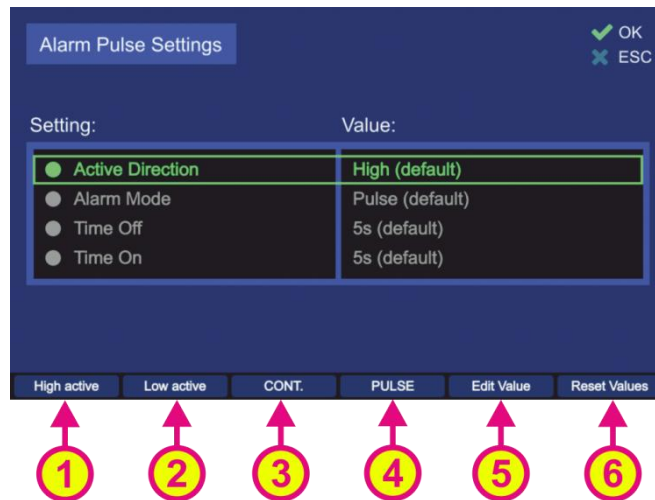

Fig. 107 Alarm pulse settings
In this dialog pressing “OK” will be interpreted as confirming of the whole set of settings that are currently displayed, which will lead to closing the dialog confirming changed values. To change the single settings only the hotkeys for modifying the related values are used (s. Fig. 107).
**Active direction** setting defines which direction (low or high) will lead to an alarm indication. This setting is changeable using the hotkeys “High active” / “Low active” or “Edit Value” (s. Fig. 107, numbers 1, 2 and 5), whereat using the first two hotkeys will change the value without opening the separate dialog.
This setting is changeable using the hotkeys "CONT." / "PULSE" or "Edit Value" (s. Fig. 107, numbers 3, 4 and 5), whereat using the first two hotkeys will change the value without opening the separate dialog.
- To change the "Time Off"- time, press the hotkey "Edit Value" (s. Fig. 107, position 5). The related dialog will open (s. Fig. 110).
- To change the “Time On”- time, press the hotkey “Edit Value” (s. Fig. 107, position 5). The related dialog will open (s. Fig. 111).